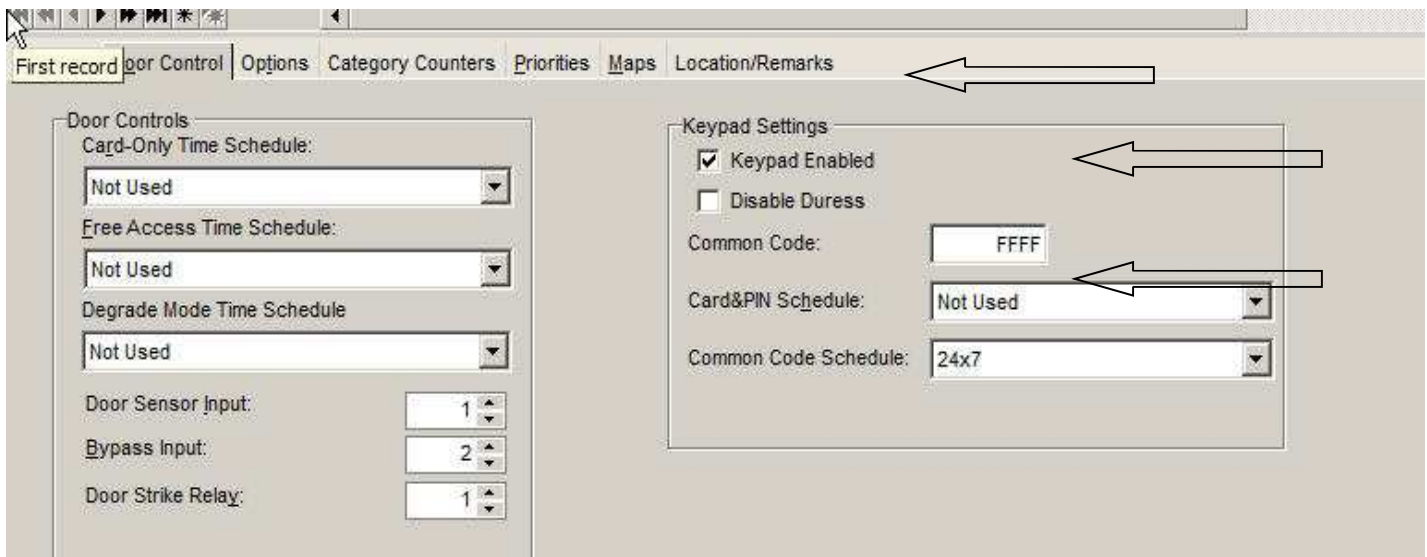

Figure 5.
1) The “FFFF” mode is a special mode which allows the user to enter their badge number into the keypad. The “Keypad Enabled” must be selected. The Common Code” must be set to “FFFF” and a “Common Code Schedule” must be configured. Refer to figure 5 for configuration of “Keypad Settings”.